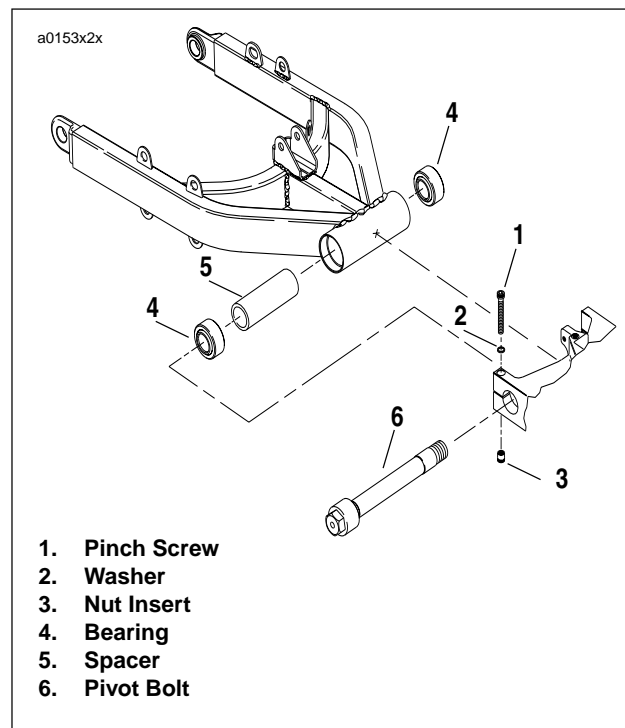

Figure 2-92. Swingarm
11. See Figure 2-92. Loosen swing arm pinch bolt (1).
12. Remove swingarm pivot bolt (6) and swingarm.
14. Use slide hammer (SNAP-ON Part No. CJ1275 or equivalent) and bearing remover to remove bearings (4).
15. Remove swingarm spacer (5).
1. See Figure 2-92. Install new bearings (4) and spacer (5).
2. Position swing arm in mounting block. Apply anti-sieze to swingarm bolt (6) and install. Torque to 24-26 ft-lbs (32.5-35.2 Nm).
3. Apply LOCTITE 243 BLUE to pinch bolt (1) and install. Torque to 18-20 ft-lbs (24.4-27.1 Nm).